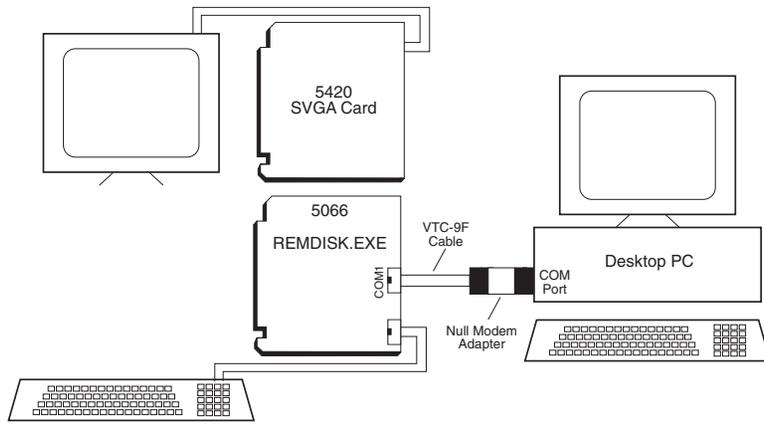

Figure 10-1 – Downloading Files to 5066 with Video Card Installed
1. Connect the equipment as shown in Figure 10-1.